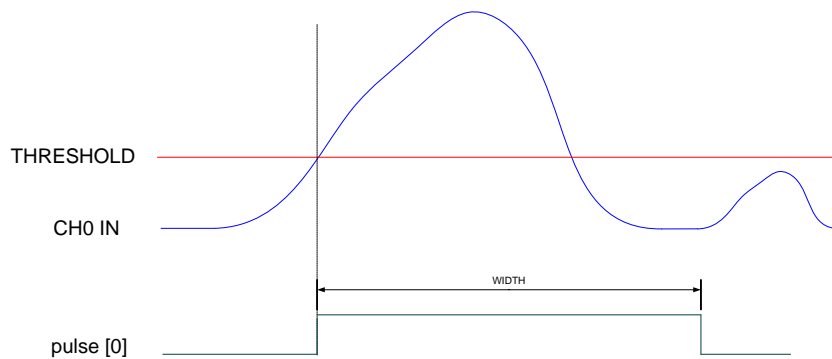

Fig. 9.7: Channel pulse signal
- a pulse of configurable width (see Fig. 9.7). The width parameter can be set through the *Channel n Pulse Width* register (address 0x1n70).